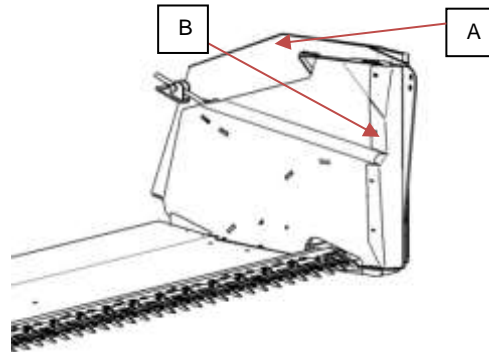

Fig.2
- Disassemble the inner protective hood that has been screwed in tight from the inner left side (B) (Fig.2).
- Install and secure (screw in tight) the side protective hood (A) (Fig.2).